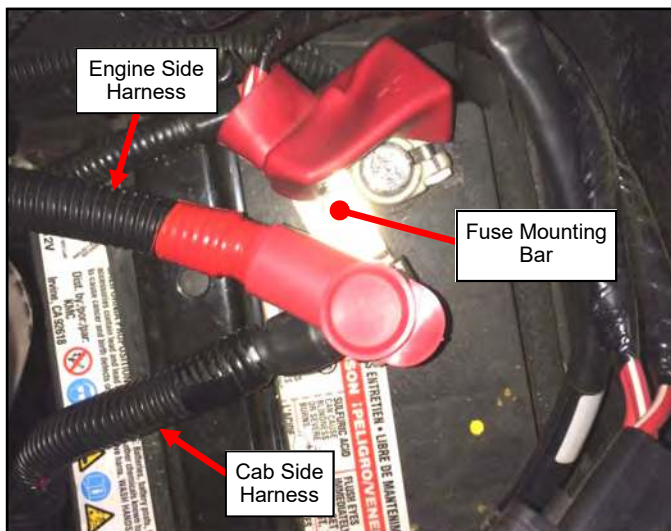

Fig. 4.4 (Install A/C Power Supply Harnesses, Battery Side)
- 4.4** Install Fuse Mounting Bar, 100 amp fuse and both engine and cab side A/C Power Supply harnesses to the positive terminal found on the vehicle's battery. See fig 4.4.